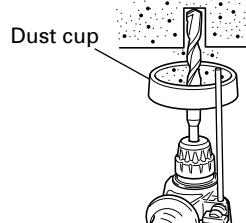
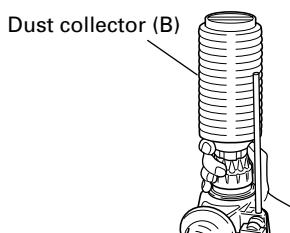

Fig. 4
Fig. 5
## 7. Installation of dust cup or dust collector (B) (Optional accessories) (Fig. 4, Fig. 5)
Use the dust cup by attaching to the drill bit as shown in Fig. 4.
- **Installing dust collector (B)**
When using dust collector (B), insert dust collector (B) from the tip of the bit by aligning it to the groove on the grip (Fig. 5)
This rotary hammer can be set to rotation and hammering mode by pressing the push button and turning the change lever to mark. (Fig. 4)